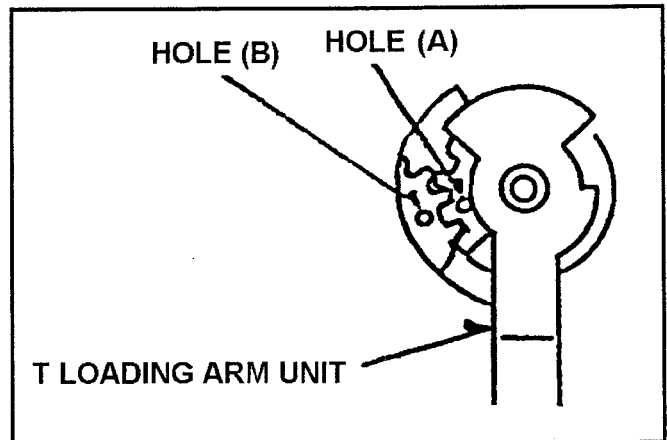

Fig. 6-14-1 Phase Adjustment of T1 Loading Arm Unit
1. When install the T1 Loading Arm Unit, then the hole (A) should be matched hole (B) as shown in Figure 6-14-1.
3. Post Height Pre-adjustment (Refer to item 5-5) and Linearity adjustment (Refer to item 5-18 [Tape Pass Adjustment Procedure]) should be performed.